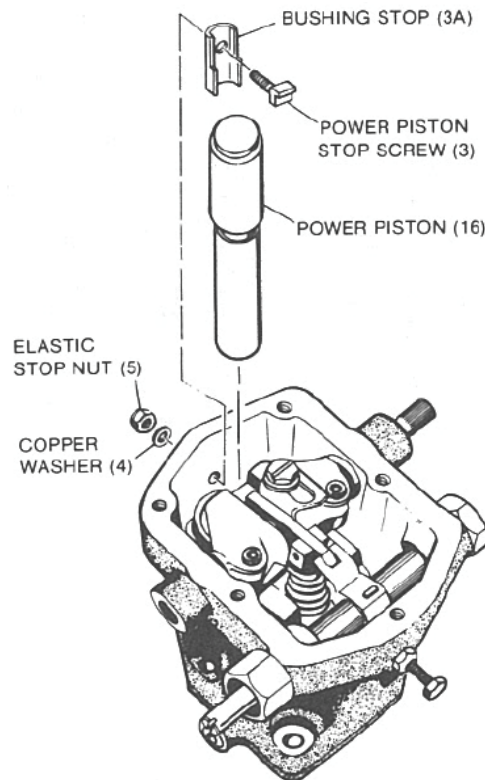

Figure 3-16. Power Piston Assembly
- Place piston into case as shown in Figure 3-16 and 3-17.